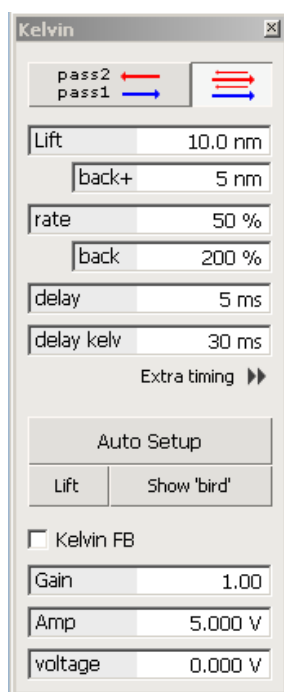

Figure 4.5.1 Kelvin mode control panel
- Select Kelvin mode from the list of the scanning modes to switch on the Kelvin Probe Force Microscopy technique. The KPFM control panel appears (fig. 4.5.1).